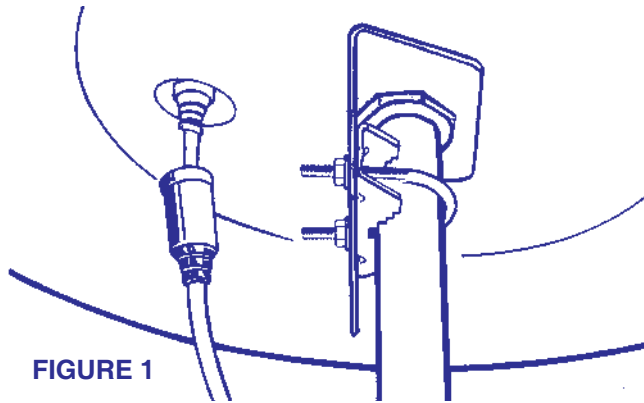

FIGURE 1
STEP 1: Attach mounting bracket to bottom of antenna as shown in Figure 1 and mount antenna on mast. The tab on the plastic screw and notch on the bracket ensure a secure connection. Use center set of holes on bracket. Tighten U-bolt. Connect download to jack on antenna, slide weather boot over boot collar.